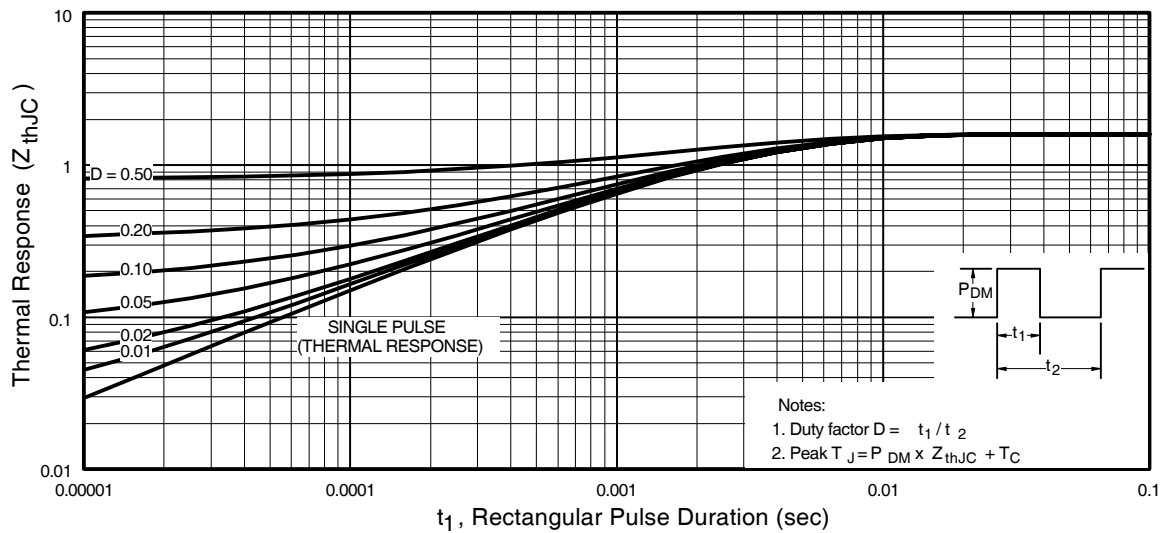

Fig 11. Maximum Effective Transient Thermal Impedance, Junction-to-Case
- ① Repetitive rating; pulse width limited by max. junction temperature. (See fig. 11)
- ② Starting $T_J = 25^\circ\text{C}$, $L = 220\mu H$